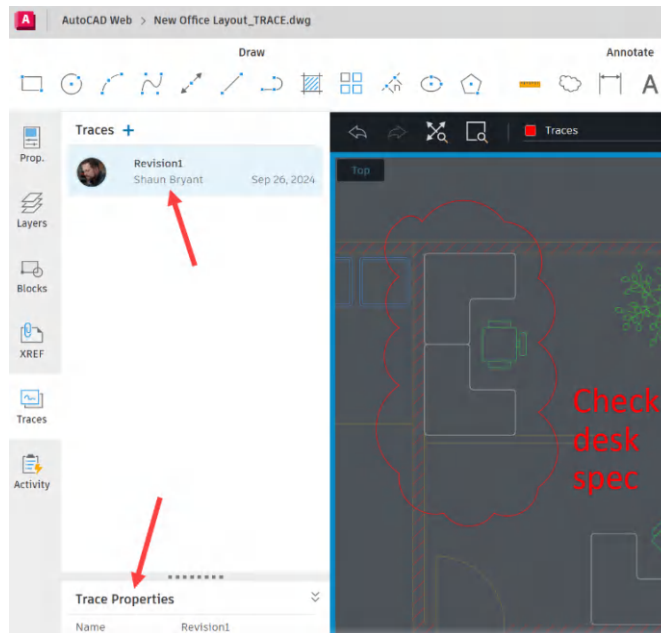

Figure 16.24: The Traces palette current with the trace selected
5. The **Traces** palette will display, and you will see the recent trace listed on the palette, as shown in *Figure 16.24*. Select the **Revision1** trace, and the drawing will enter trace mode, with the trace displayed. This will be the trace you saw when working with the AutoCAD mobile application in the previous section.
6. The trace properties are also displayed in the **Traces** palette. They are displayed under the **Traces** list, as arrowed in *Figure 16.24*.